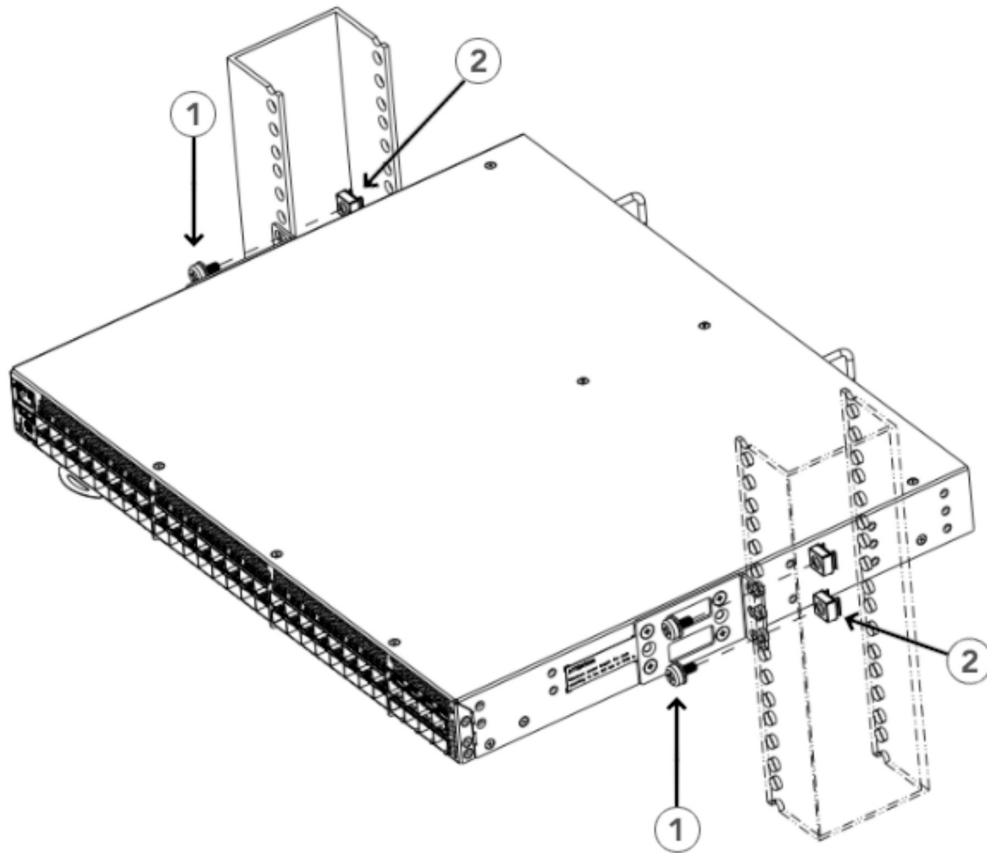

Figure 22. Attaching front brackets to a rack
1. Position the device in the rack, as shown in Figure 22 on page 33, providing temporary support under the device until the rack kit is fully secured to the rack.